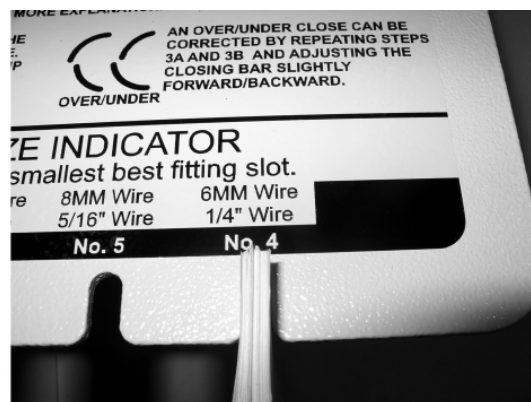

Fig. 1
**STEP 1, Determine the correct wire size for a book:** See figure 1.